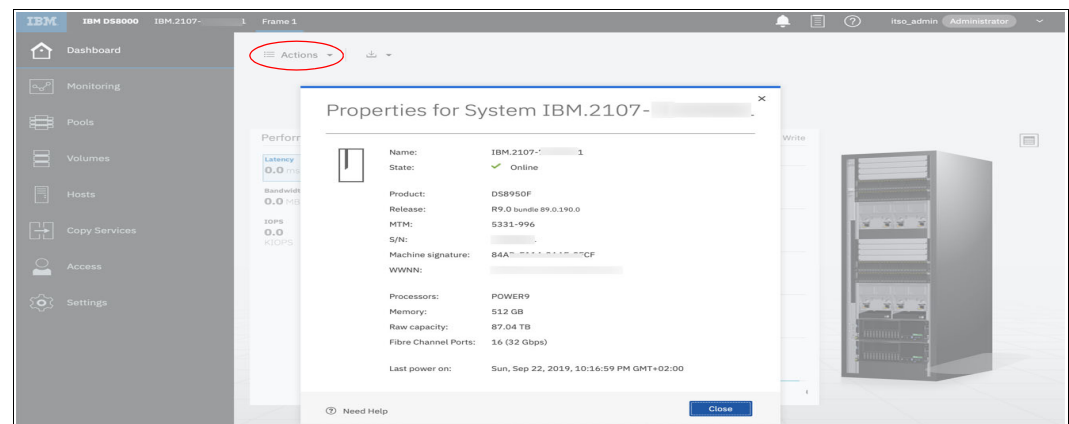

Figure 7-6 Properties window showing the machine signature and MTM
- To obtain the machine signature and machine type and model (MTM) after the installation, go to the Dashboard and click **Actions** → **Properties**, as shown in Figure 7-6.